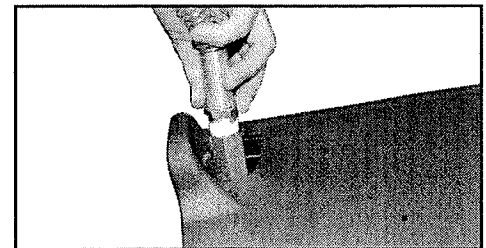

Fig 4
9. Thread the discharge hose with the "hose guard" end directly into ball-valve and tighten with a wrench. (See Fig. 4)